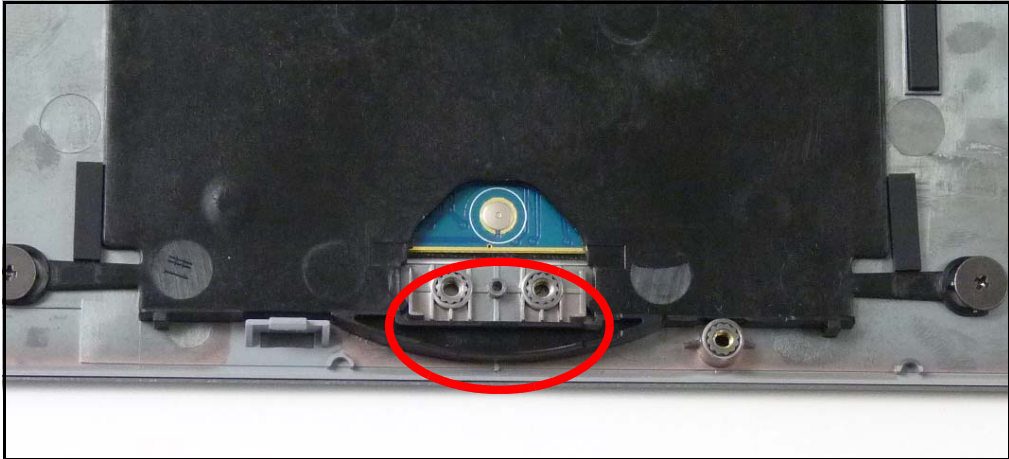

Figure 3-1. T-pad Bracket Installation
- 2. Secure with screw(s), Figure 3-1.